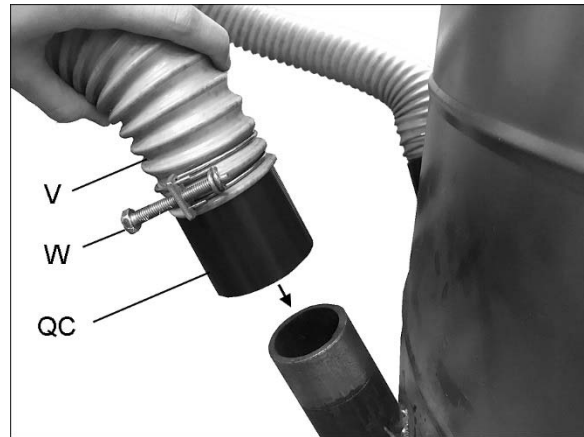

Figure 14
24. Connect free ends of hoses (V) to quick connectors (QC) using hose clamps (W). See Figure 14. Push connectors onto lower drum ports.